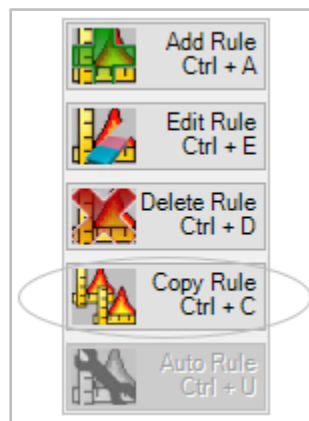

Figure 6-11. Copy Rule icon.
- Next you will need to choose a Fuel Rule icon (Figure 6-11). Available options include the following: **Auto Rule**, **Add Rule**, **Edit Rule**, **Delete Rule**, and **Copy Rule**. Each fuel rule opens a dialog box requiring user input. (See 7.5.5 Fuel rule page tabs for detailed information about each option.)
- For this example, select the **Copy Rule** icon to copy rules from another Management Unit (Figure 6-11).